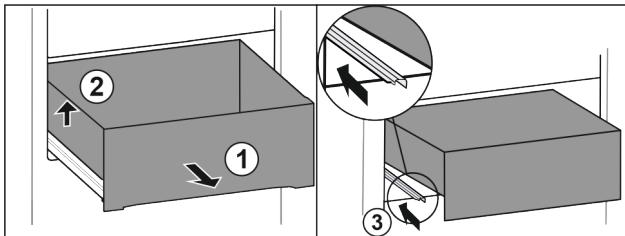

Fig. 77
- ▶ Pull out drawer as far as it will go. Fig. 77 (1)
- ▶ Lift drawer on the left. Fig. 77 (2)
- ▶ Insert left rail. Fig. 77 (3)